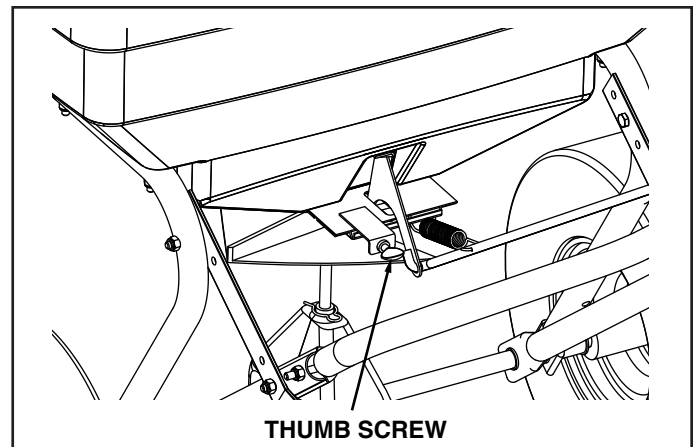

FIGURE 13
1. To adjust the flow to be heavier to the left side, tighten the thumbscrew so the plate is pushed inward. See figure 13
2. To adjust the flow to be heavier to the right side, loosen the thumbscrew so the plate is pulled outwards. See figure 13